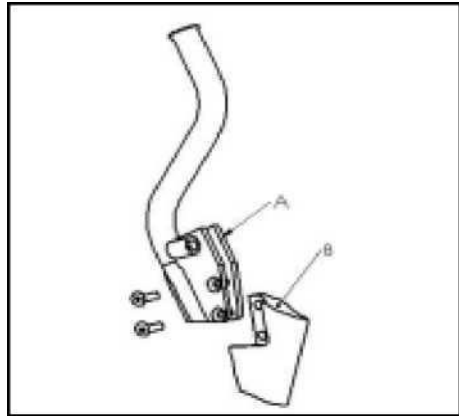

fig. 18
a) Remove the blade + blade-holder assembly (A, Fig. 18) of the sowing equipment arm.
b) remove the blade (B, Fig. 18) from the blade-holder